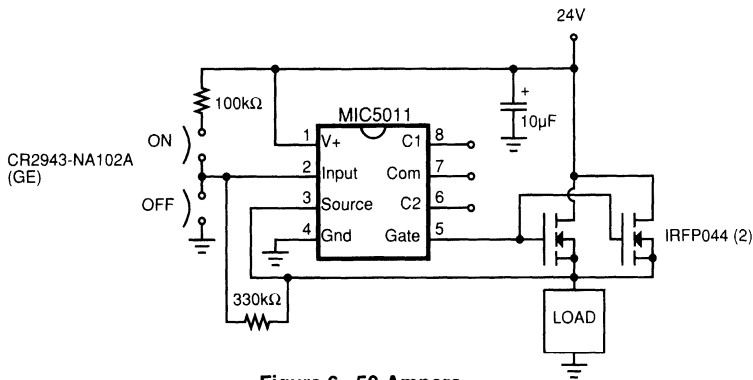

Figure 6. 50-Ampere Industrial Switch
**Industrial Switch** (Figure 6). The most common manual control for industrial loads is a push button on/off switch. The "on" button is physically arranged in a recess so that in a panic situation the "off" button, which extends out from the control box, is more easily pressed. This circuit is compat-